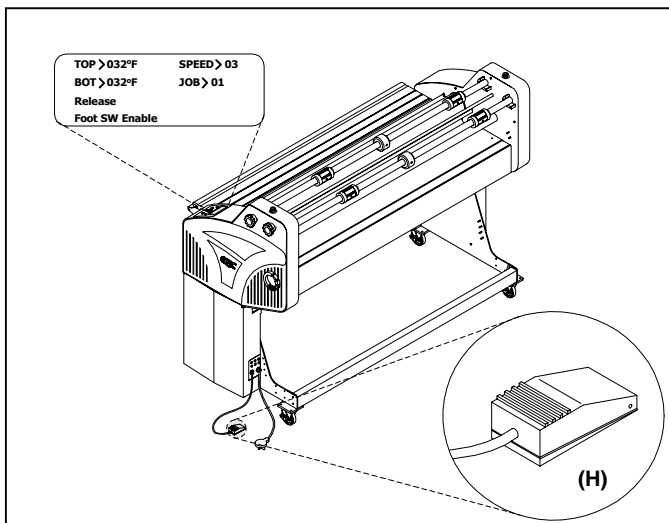

Fig. 10
**G. FOOT SW ENABLE:** (Figure 10)